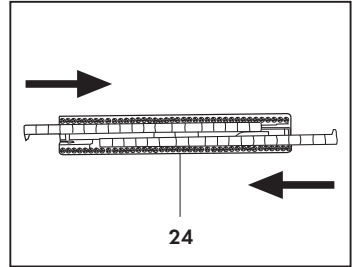

Fig. 12
To install the bristled frame for fitted and non-fitted carpets (24), introduce the stiff brushes into the appropriate guides with the tabs facing inwards (Fig. 12).